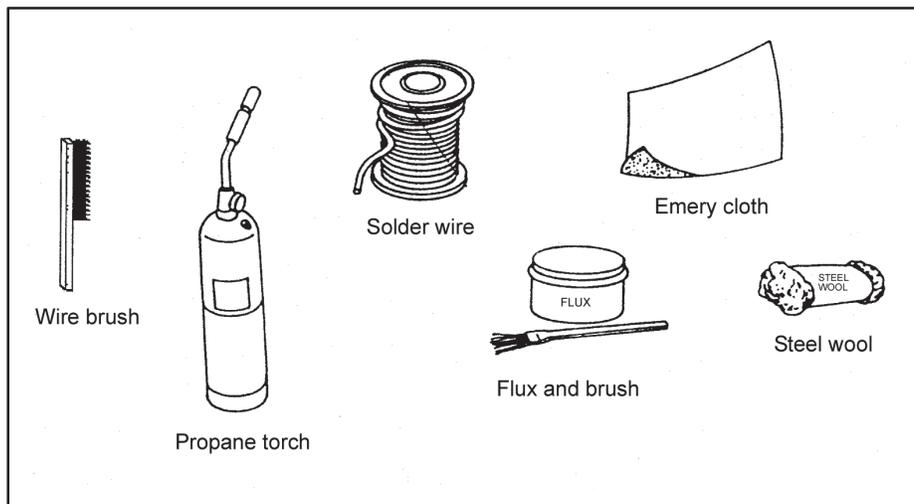
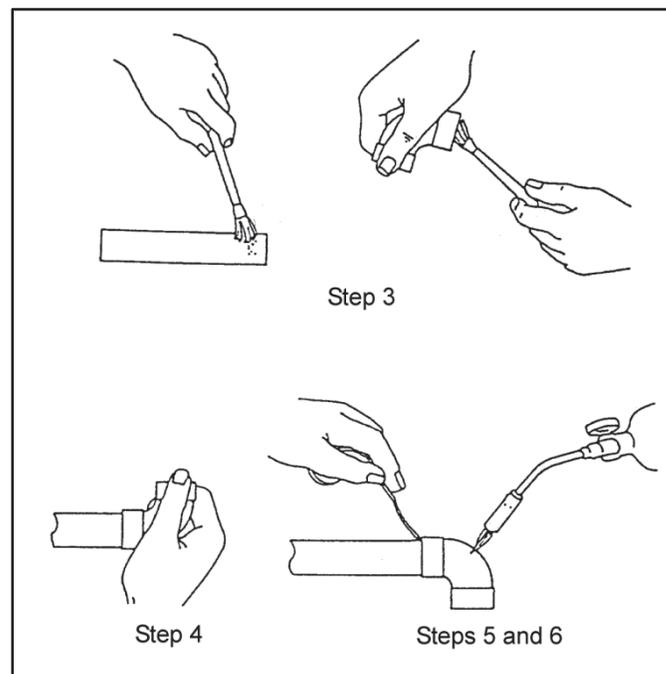

Figure 6-34. Soldering tools and materials
Figure 6-35. Soldering a joint
6-70. Soldered joints are used to connect rigid copper tubing. The following tools and materials are needed: a heating torch, 95-5 (95 percent tin and 5 percent aluminum) nonacid solder, soldering flux, and emery cloth or steel wool (figure 6-34, page 6-28). Use figure 6-35, page 6-28, and the following steps to make a soldered joint:
- Step 3.** Apply a thin coat of flux to the shined end of the tubing and fitting (figure 6-35).
- Step 4.** Push the fitting onto the tubing and give it a quarter turn to spread the flux evenly (figure 6-35).
- Step 5.** Heat the connection with a torch, applying the flame on the fitting (figure 6-35).